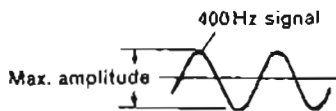

Fig. 15
1. Feed in a 90 MHz (400 Hz, 30% mod.) weak signal to TP101 from the FM signal generator. Adjust T101 for maximum amplitude of 400Hz signal shown in Figure 15.